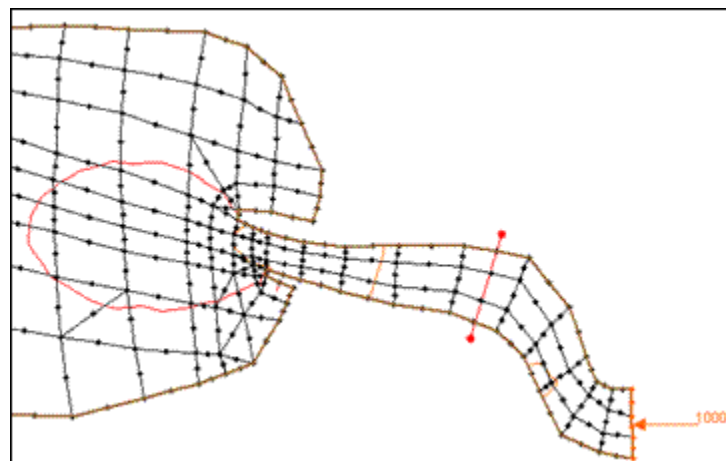

Figure 10 Observation arc across "noyo1.sms" mesh
8. With the “Fluxes” coverage active, create an observation arc across the mesh as shown in Figure 10, using the **Create Feature Arc** tool.